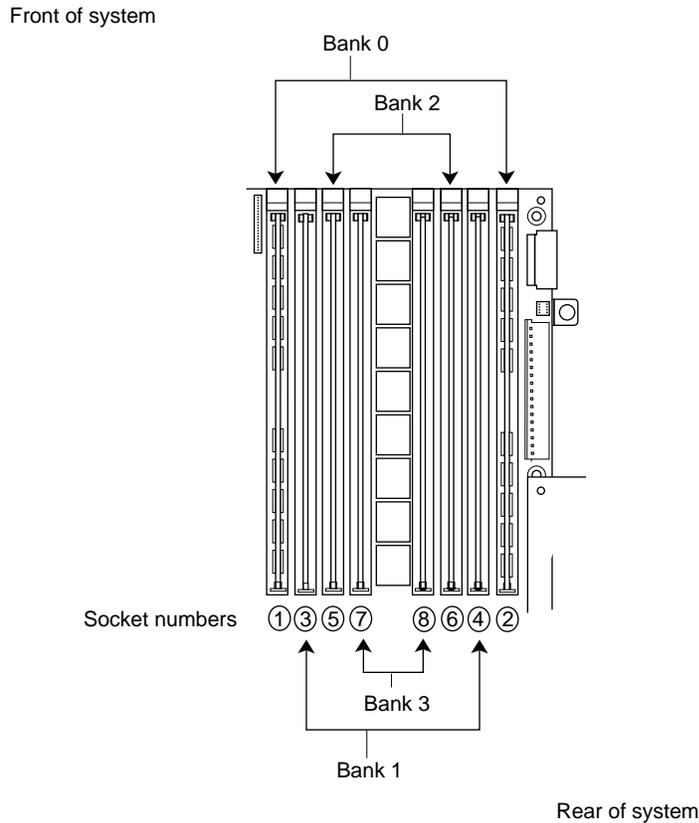

Figure 3-2 DIMM Pair Grouping in the Origin200 Server
3. Install DIMMs in pairs, starting with the pair farthest away from the center of the banks and working inward. Do not skip banks. Figure 3-2 shows the grouping of DIMM pairs:
Figure 3-2 shows one pair of DIMMs installed in bank 0 (all modules must have memory in bank 0; if you have a two-module system, both must have memory in bank 0).